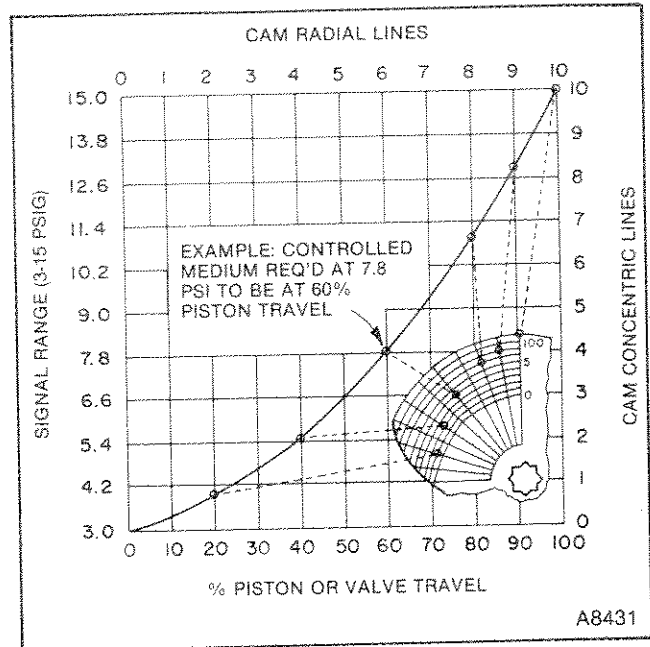

FIGURE 11 — Transferring Data from the Graph to the Cam
2. Refer to Figure 11 for the method of transferring data from the graph to the cam. For each radial line on the cam (representing a % piston or valve travel), find the value of signal pressure on the graph which corresponds to that % piston or valve travel. Proceed along the radial line to the concentric arc which represents the signal pressure for the radial line's % piston or valve travel. Mark the cam at that point. Continue in this manner until all the radial lines are marked with a signal pressure point. (Example: in Figure 11, the graph calls for a signal pressure of 7.8 psig at the 60% travel position. On the 60% travel radial line of the cam, a mark is placed at concentric line 4, representing that pressure.)